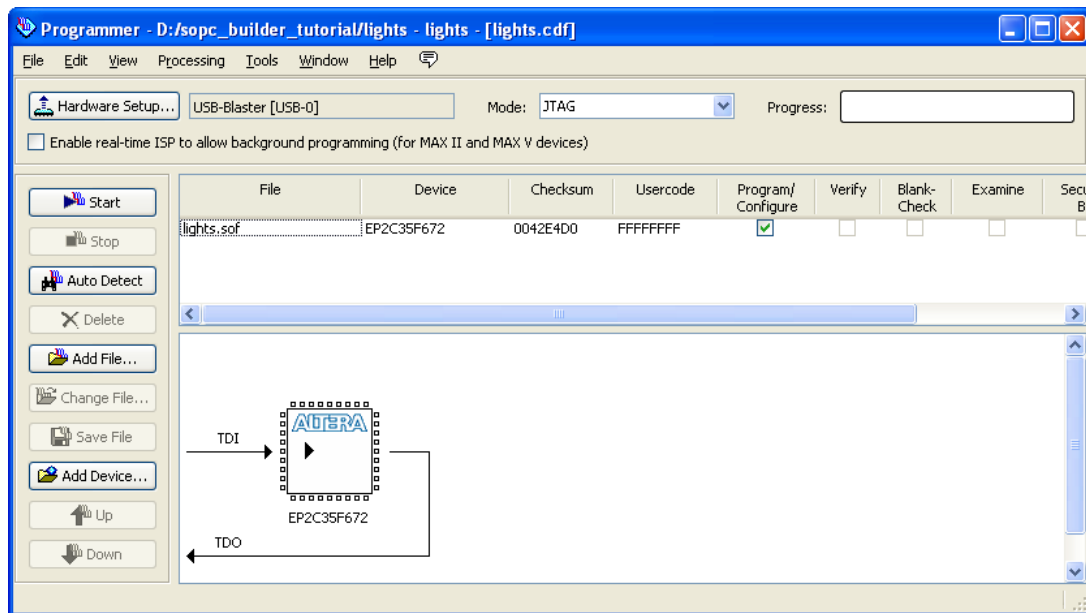

Figure 19. The Programmer window.
2. Select **Tools > Programmer** to reach the window in Figure 19.
6. At this point the window settings should appear as indicated in Figure 19. Press **Start** to configure the FPGA.